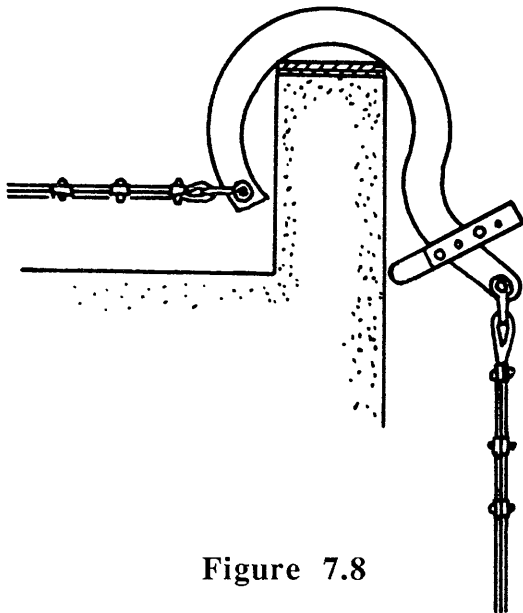

Figure 7.8
**! WARNING:** Make sure cornice or parapet wall will support load. Use parapet clamps and cornice hooks only on steel reinforced concrete structures, not on non-reinforced brick, concrete block, or stone parapets. Always tie-back cornice hook, parapet clamp, or outrigger to an adequate structural member. See Figures 7.8 and 7.9.